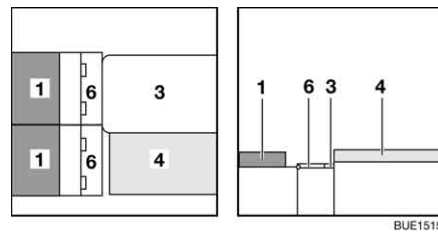

Fig. 139 During conversion
- Fold open both bench seat covers (Fig. 139,6) and lay them down on the table and the supports on the bench.
- Place the back cushions (Fig. 139,1) on the bench seat.